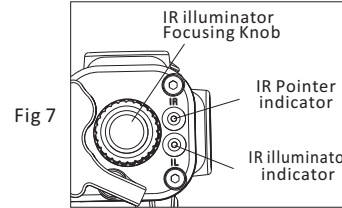

Fig 7
2. IR illumination focus adjustment: the Beam size can be adjusted by the adjusting knob which is at the rear end of the sight. The adjustment range: 95 - 210 mrad. (Fig 7)